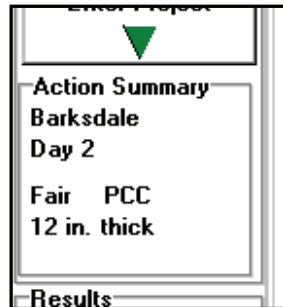

Figure 7. Action Summary box.
- o The Action Summary box (Figure 7) shown in the upper left corner on the laptop computer screen displays the name of the